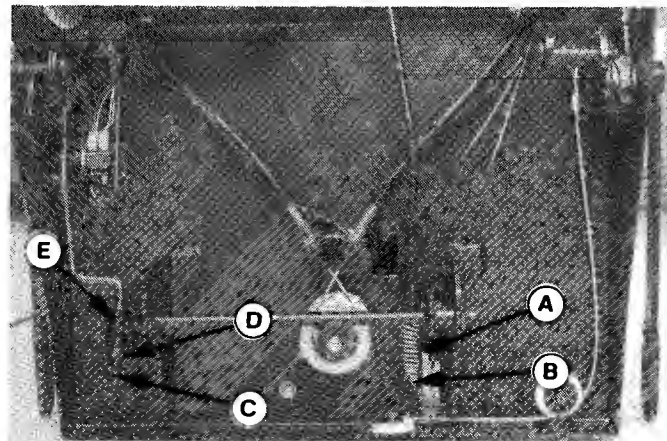

Figure 20. (Viewed from underneath front of rider.)
2. The clutch rod spring (A, figure 20) should measure 2 to 2 1/8" along the long side. To adjust, tighten or loosen the nut (B).
3. Pull the brake rod (C, figure 20) toward front as far as possible. Tighten or loosen the nut (D) to achieve a gap of 3/8 inch between rear surface of nut and the guide that rod extends through.